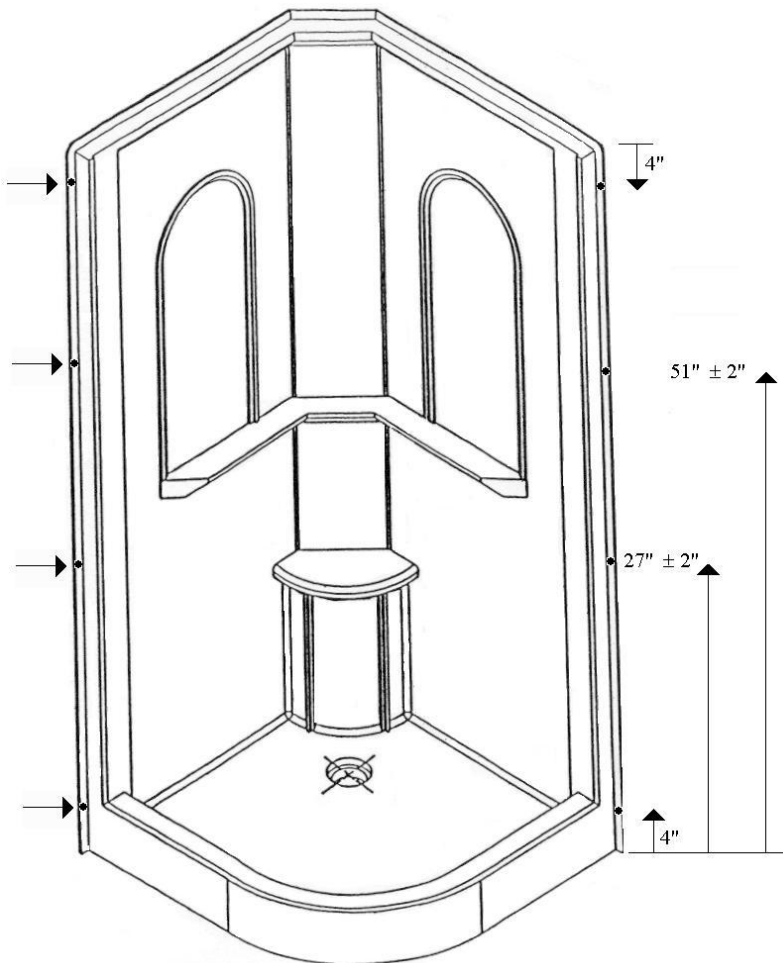

Figure 5
- Using a drill and a drill bit that is slightly bigger than the screws (not supplied) drill the acrylic on the outer lip (hidden section after installation is complete) to secure the shower to the slats, as indicated on Figure 5.